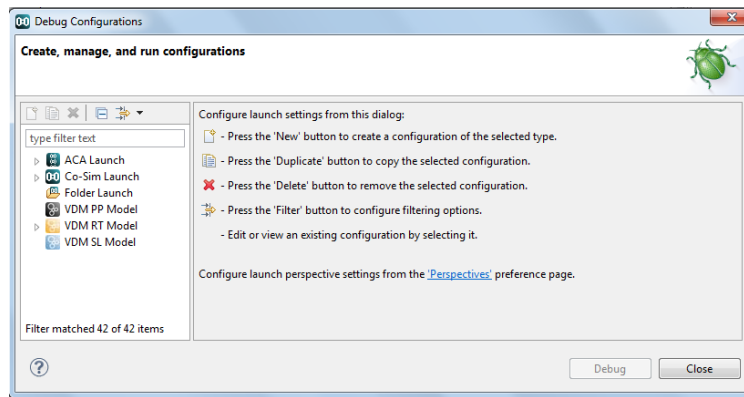

Figure 6.1: Select a new debug configuration.
- A drop-down menu will appear, in which the option *Debug configuration* has to be selected, and as a consequence a new window as shown in Figure 6.1.